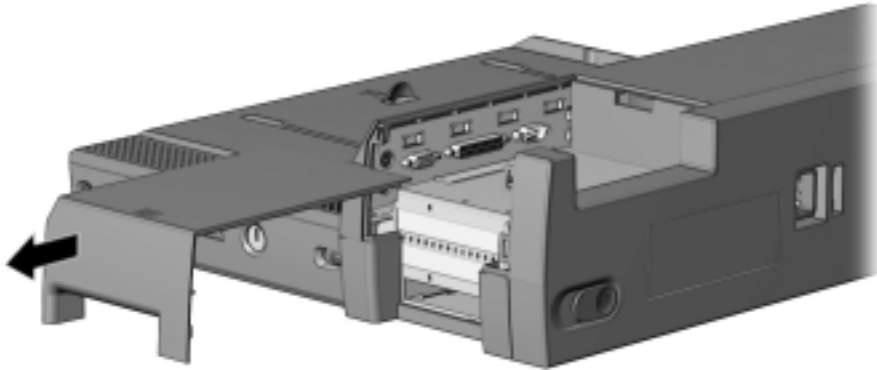

Figure 5-6. Removing the Connector Cover
3. Slide the connector cover to the left and remove it (Figure 5-6).